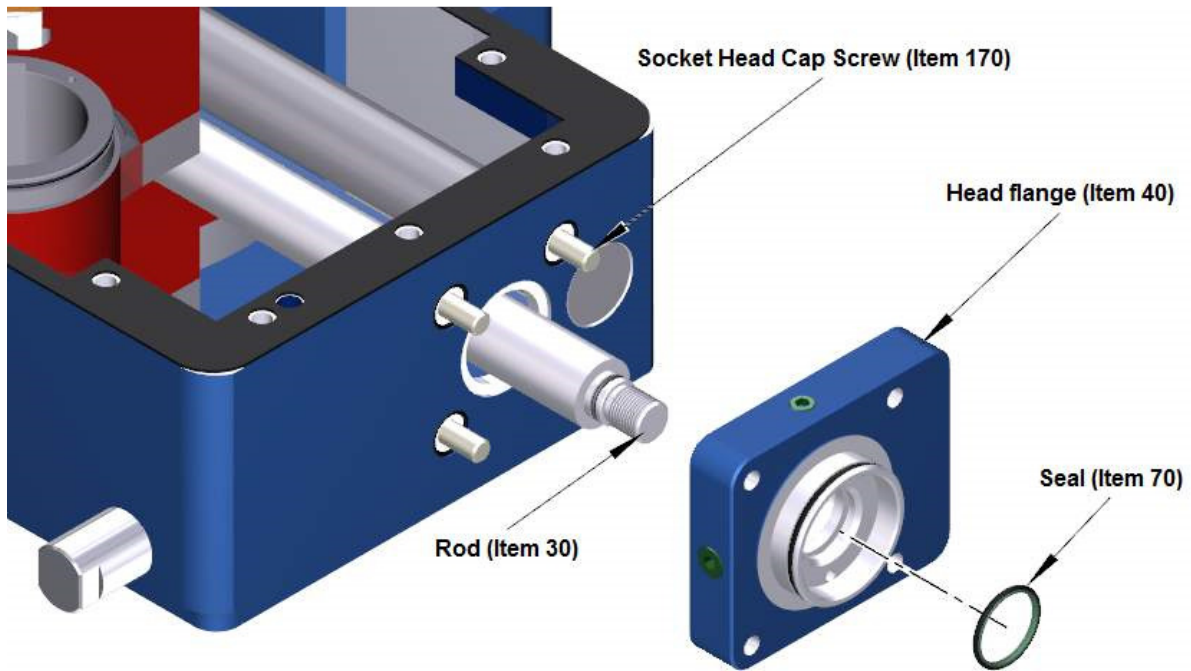

Figure 3
**c) Replacement Piston rod seal in head flange: (See Figure 3)**